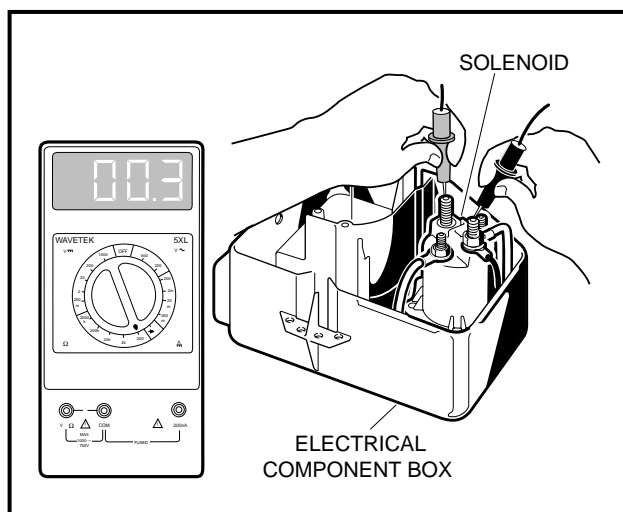

Figure 11-30 Test Solenoid Continuity
6. Set the multimeter to 200 Ω (ohms). Connect the red (+) probe to one of the large posts of the solenoid and connect the black (-) probe to the other large post (**Figure 11-30, Page 11-27**).